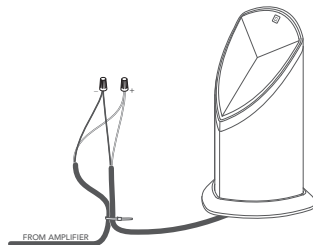

Figure 7
2. Starting at the speaker furthest from the amplifier, strip 3/4" of insulation on the cut end of the burial wires for the appropriate amp channel according to the tables below, then strip insulation from the ends of the corresponding speaker's pigtail (see Figure 7).
3. Connect the burial cable to the speaker pigtail using a wire tie (see Figure 7).